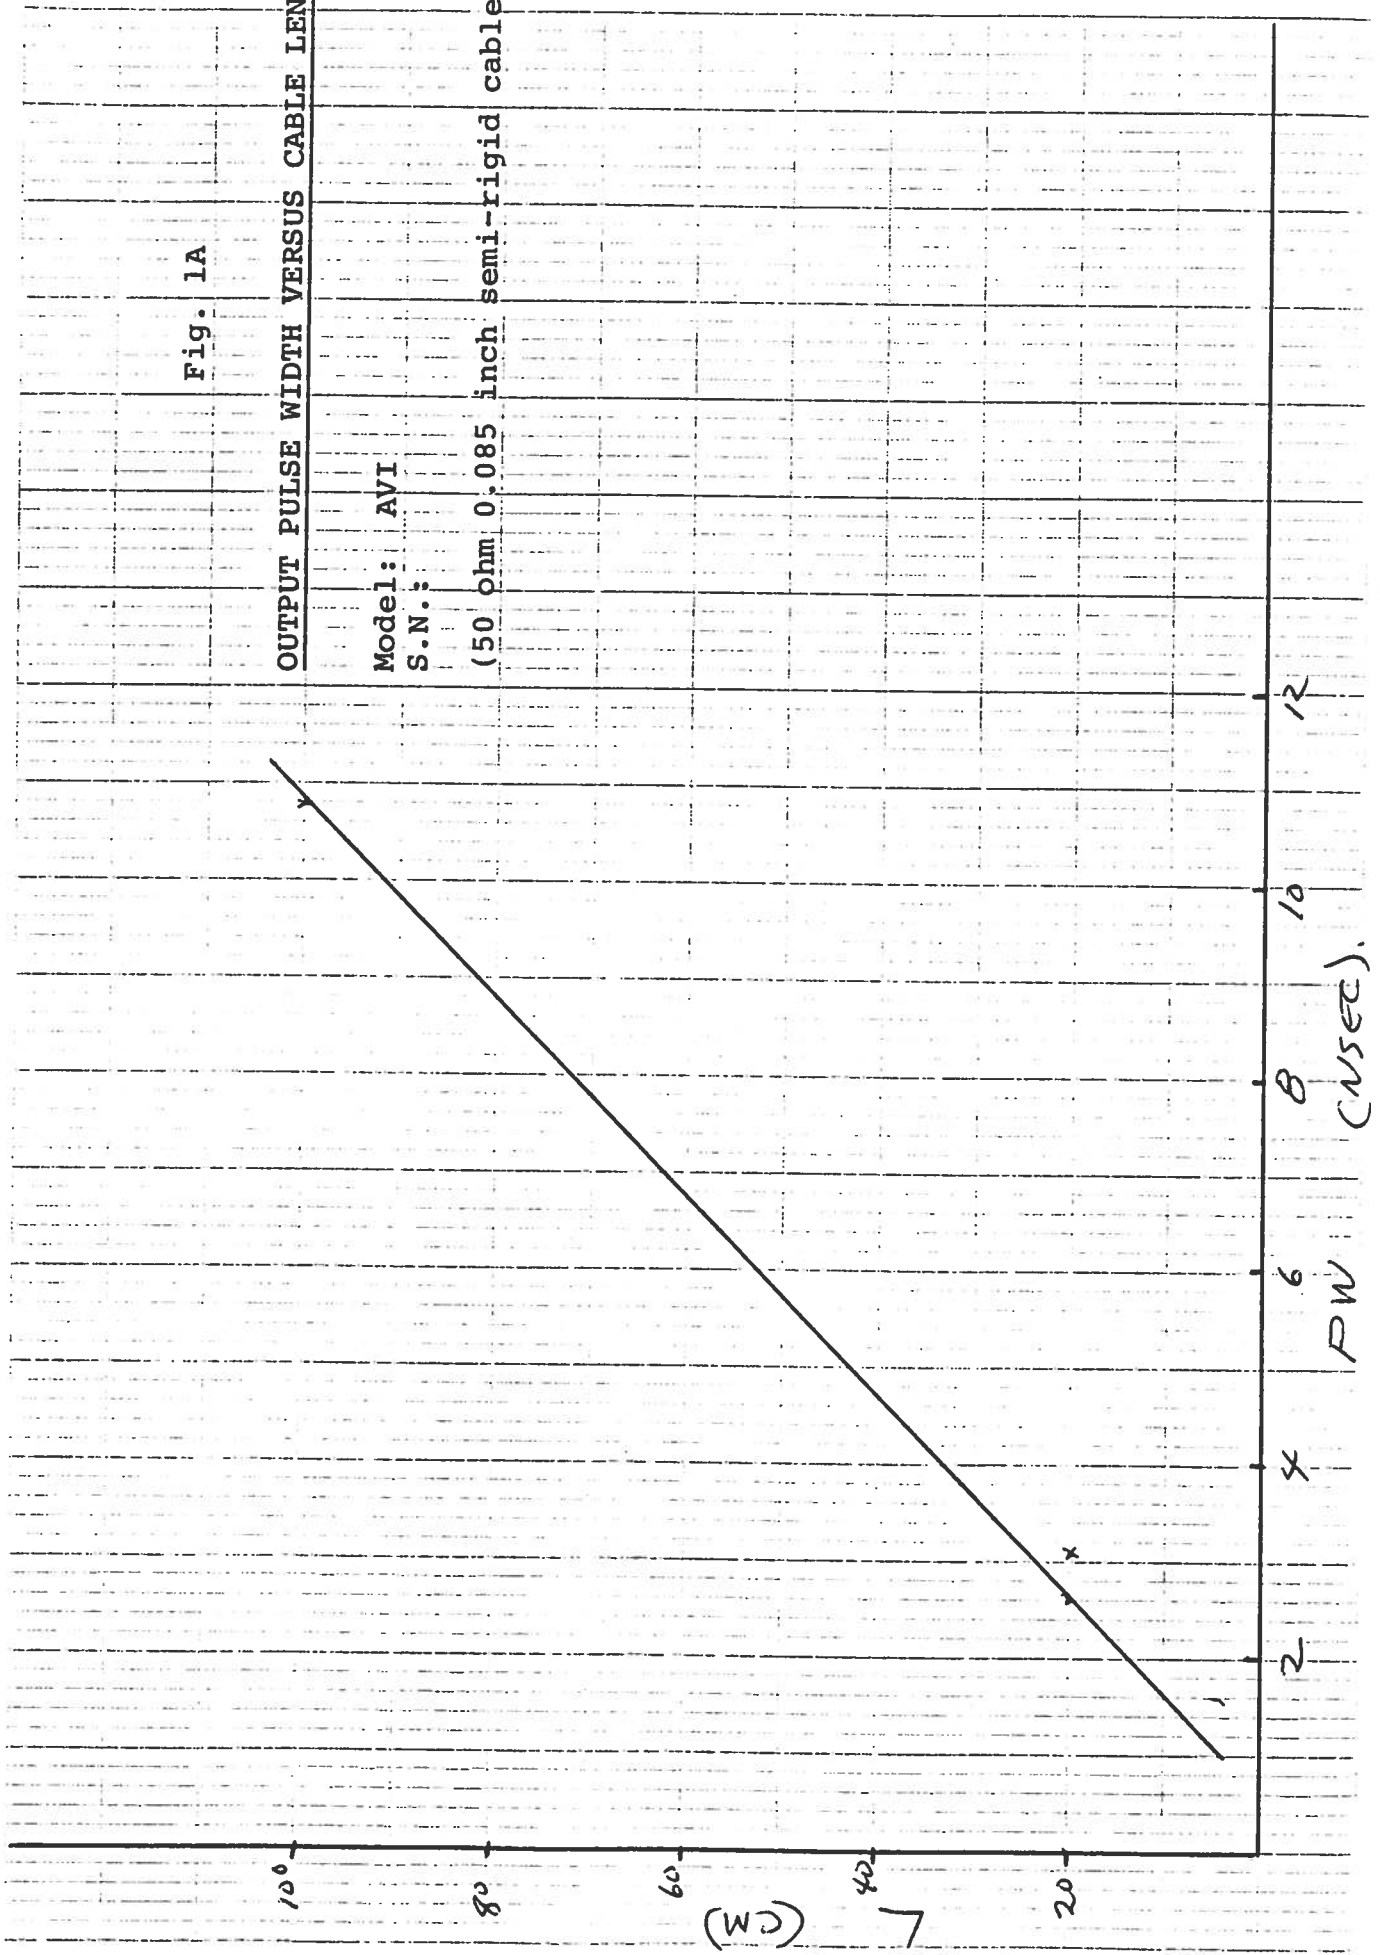

Fig. 2
- 5) The minimum pulse repetition frequency period is related to the delay line cable length (or pulse width) as shown in Fig. 2. If the PRF period for a given cable length is less than that specified in Fig. 2, the output pulse amplitude will be less than the specified value and prolonged operation in this mode could result in damage to the unit. Therefore, operation in or beyond the shaded region should be avoided.